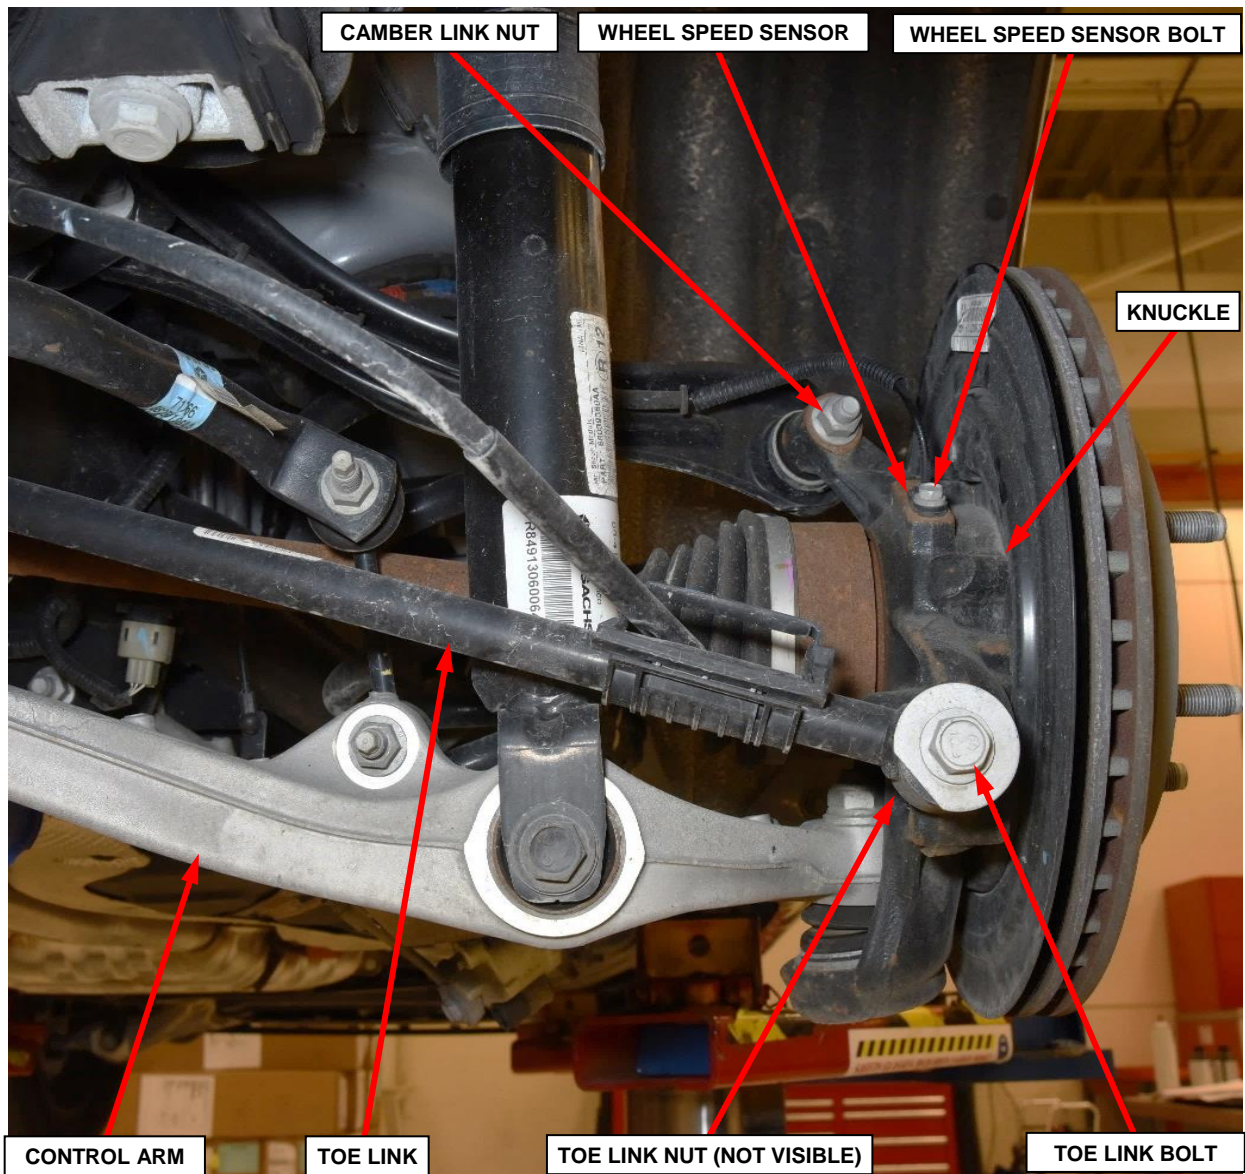

Figure 15 – Right Side Rear Suspension Components and Wheel Speed Sensor
22. Remove the wheel speed sensor bolt (Figure 15).
23. Remove the wheel speed sensor from the knuckle (Figure 15).
24. Remove the nut and bolt securing the toe link to the knuckle (Figure 15).
24. Install the toe link bolt and nut then tighten to 108 N·m (79 ft. lbs.) (Figure 15).
25. Install the wheel speed sensor and bolt to the knuckle then tighten to 11 N·m (8 ft. lbs.) (Figure 15).